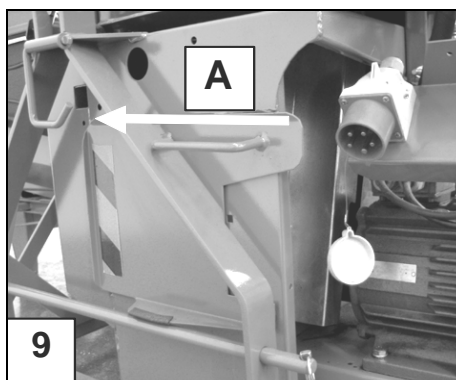
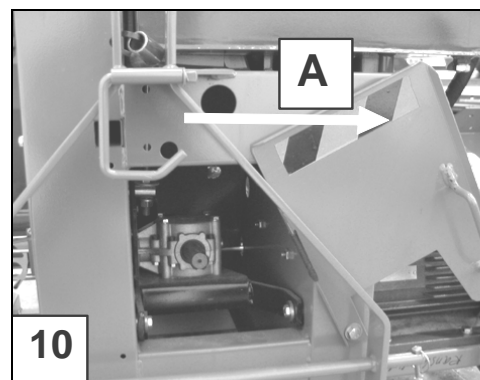

Fig. 9. Selecting the powered-by-electricity mode
Fig. 10. Selecting the powered-by-tractor mode
3.6 Selecting the operating mode: powered by tractor or electricity (Figures 9 and 10)
- ❑ When the cover plate is shifted to the left (Figure 9), it is possible to connect the extension cable, and when it is shifted to the right (Figure 10), it is possible to connect the power take-off shaft.